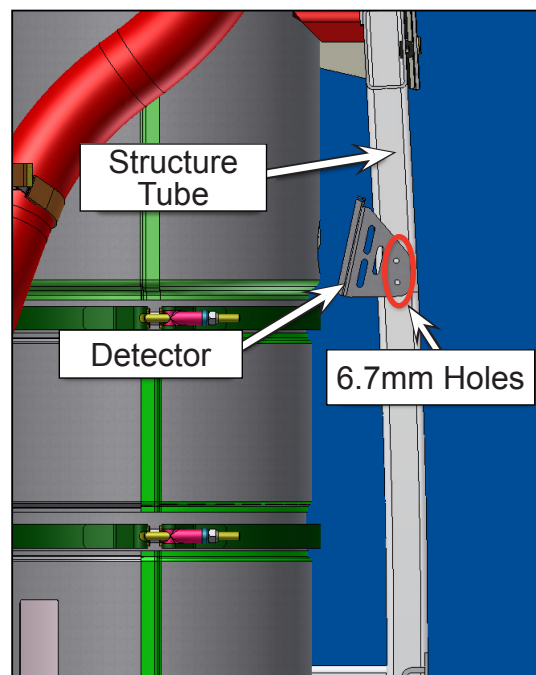

Figure 5 - Typical Location of Drilled Holes (6.7 mm)
- 1.5. Drill the holes at 17/64 in. (0.265 in or 6.7mm) (see Figure 5).